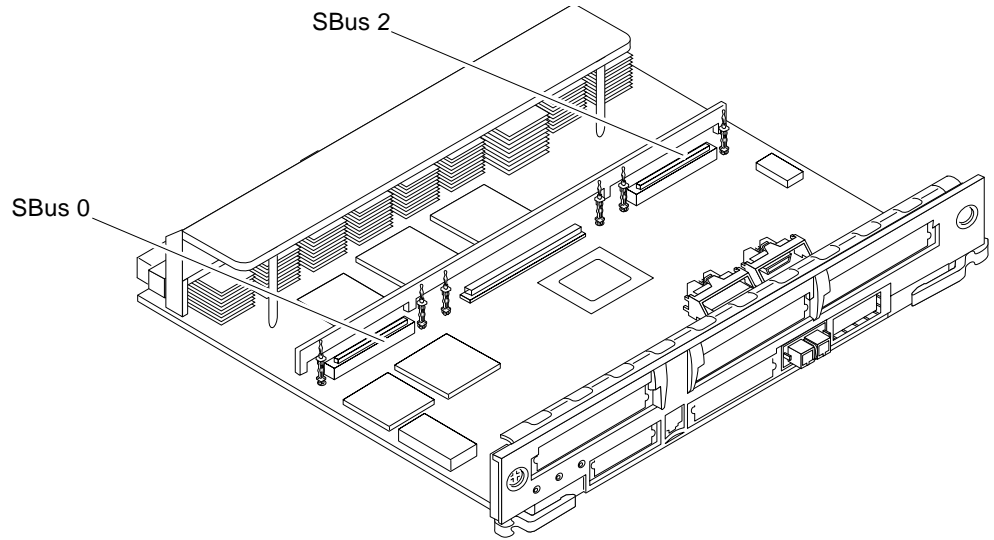

FIGURE G-8 Graphics+ I/O Board SBus Connectors
- The Graphics+ I/O board has two SBus connectors, SBus 0 and 2 (FIGURE G-8).